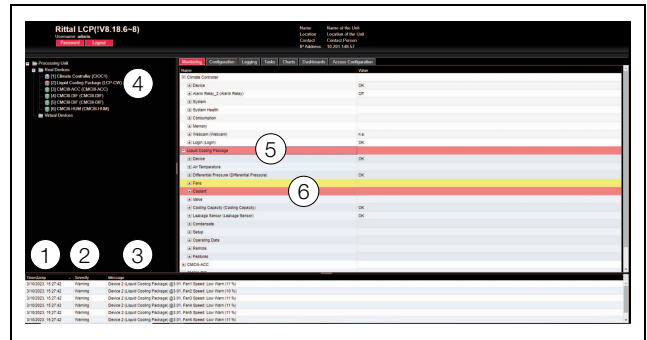

Fig. 115: Layout of message display
1. Timestamp: The date and time when the error occurred (fig. 115, item 1).
2. Severity: Severity of the error. A distinction is made between Warnings and Alarms (fig. 115, item 2).
3. Message: Error message in plain language (fig. 115, item 3).
- Left-hand screen section (navigation area): The symbol in front of the component on which the error occurred is shown in red in the tree view in the event of an alarm message, and yellow in the event of a warning message (fig. 115, item 4).
- Right-hand screen section (configuration area): On the **Monitoring** index tab, the entire component and the specific parameter to which the warning or alarm applies is shown in red or yellow (fig. 115, items 5 and 6).